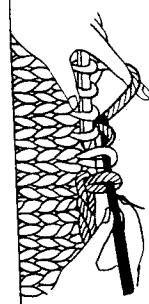

Fig. 65
2. Bind off the knitting as shown in Fig. 65.